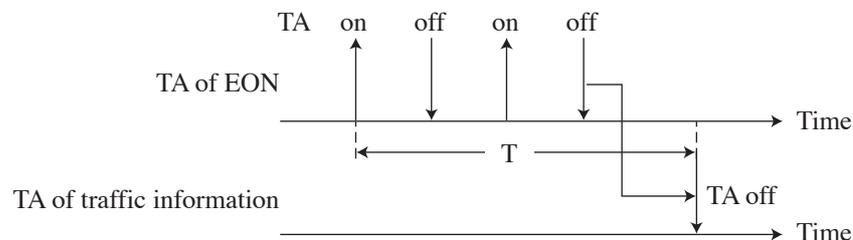

Fig. 3-24
- As shown in Fig. 3-24, if you set the delay T and change TA of EON (TA on in the figure), then additionally change TA several more times, no delay occurs until the processing of the first TA change is finished. In addition, TA of traffic information when the delay arrives is set to the state immediately before (TA off in the figure).